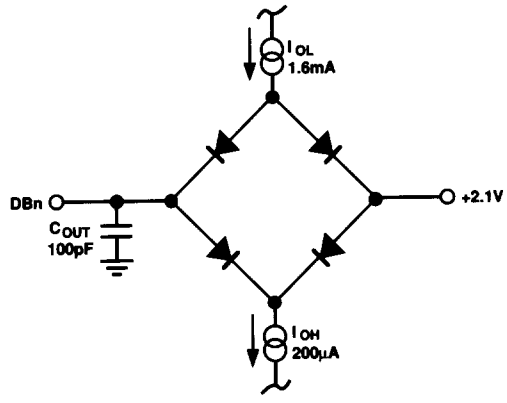

Figure 3. Load Circuit for Bus Timing Characteristics
- ³ t_6 is measured with the load circuit of Figure 3 and defined as the time required for an output to cross 0.8 V or 2.4 V.
- ⁴ t_7 is derived from the measured time taken by the data outputs to change 0.5 V when loaded with the circuit of Figure 3. The measured time is then extrapolated back to remove the effects of charging or discharging the 100 pF capacitor. This means that the time t_7 quoted above is the true bus relinquish time of the device and, as such, is independent of the external bus loading capacitance. Specifications subject to change without notice.
³Data access time depends directly on t_4 , the \overline{CS} to \overline{RD} setup time, e.g., $t_{11} = 135 - t_4$. Time t_{11} is measured with the load circuit of Figure 3 and is defined as the time required for an output to cross 0.8 V or 2.4 V.
⁴ t_{12} is derived from the measured time taken by the data outputs to change 0.5 V when loaded with the circuit of Figure 3. The measured number is then extrapolated back to remove the effects of charging or discharging the 100 pF capacitor. This means that the time t_{12} quoted above is the true bus relinquish time of the device and, as such, is independent of external bus loading capacitance.